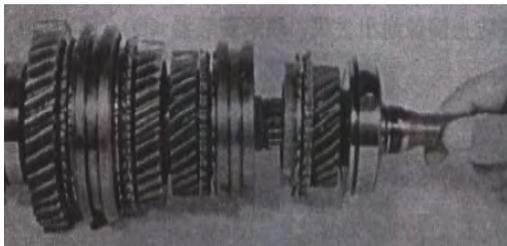

Fig 10-71
(12) Install synchronizer ring, needle bearing and input shaft. (FIG.10-71)